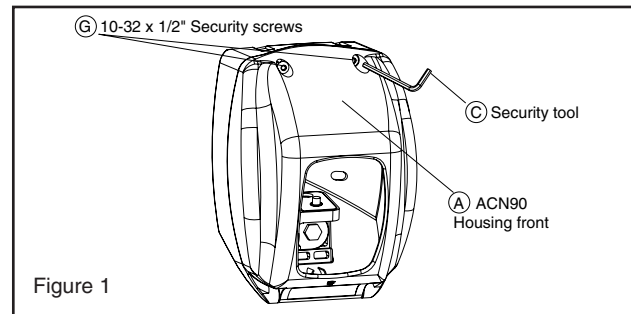
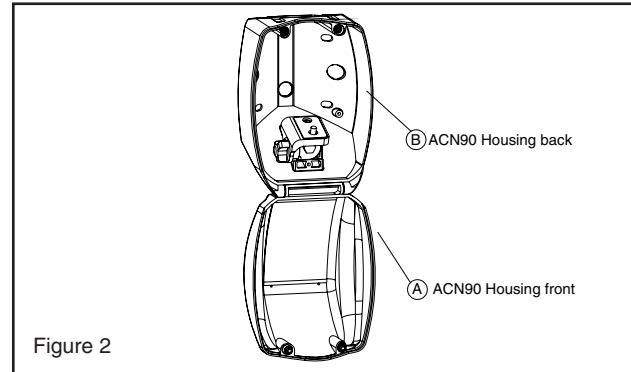

Figure 1
Figure 2
- Using the Security Tool (C) provided, loosen the (2) 10-32 x 1/2" Security Screws (G) at the top of the ACN90 housing front (A) (Figure 1). The screws are captive, so they will not fully release. Open the housing front completely (Figure 2).